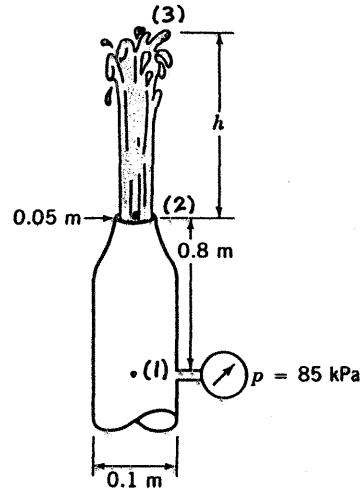

FIGURE P3.44
3.44 Water flows without viscous effects from the nozzle shown in Fig. P3.44. Determine the flowrate and the height, h , to which the water can flow.